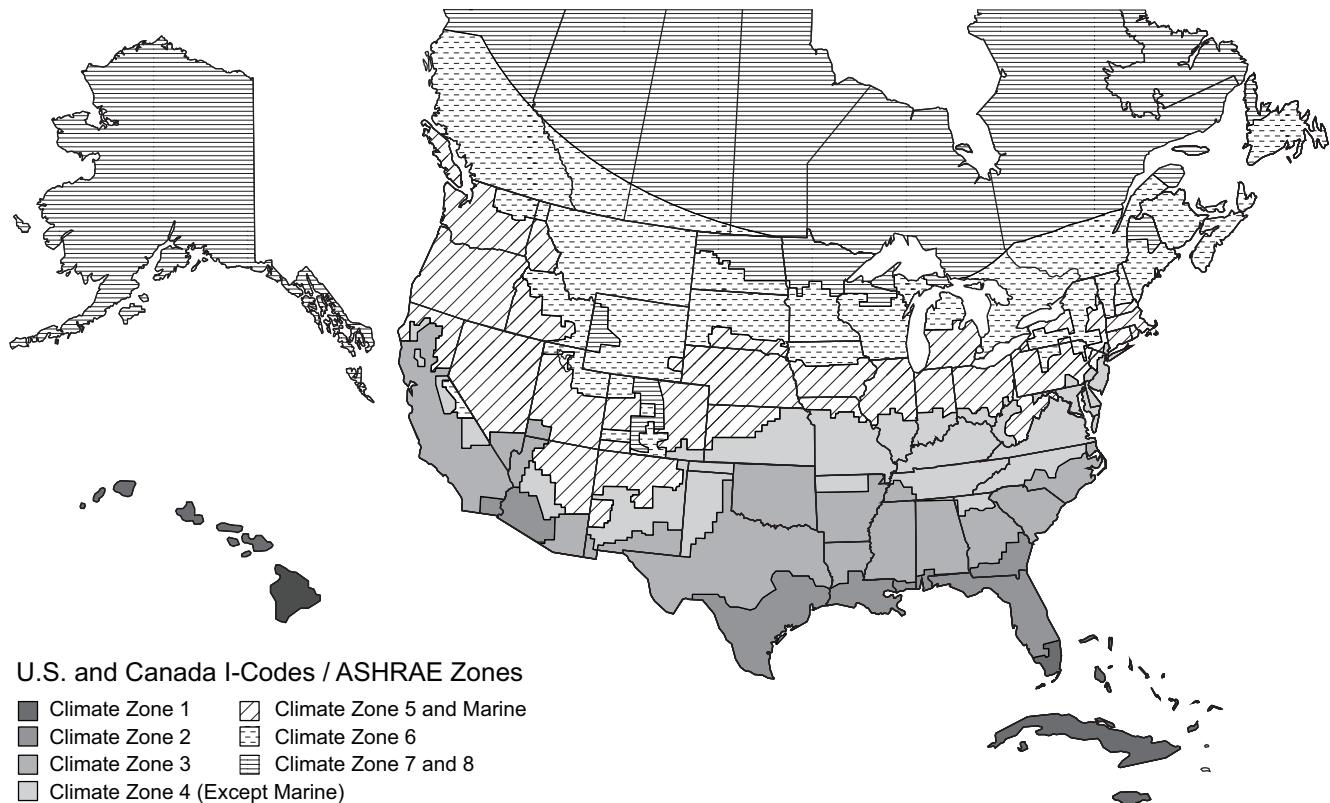

Fig. 90 — U.S. and Canada Climate Zones
- See Fig. 90 for map of U.S. and Canada climate zones.